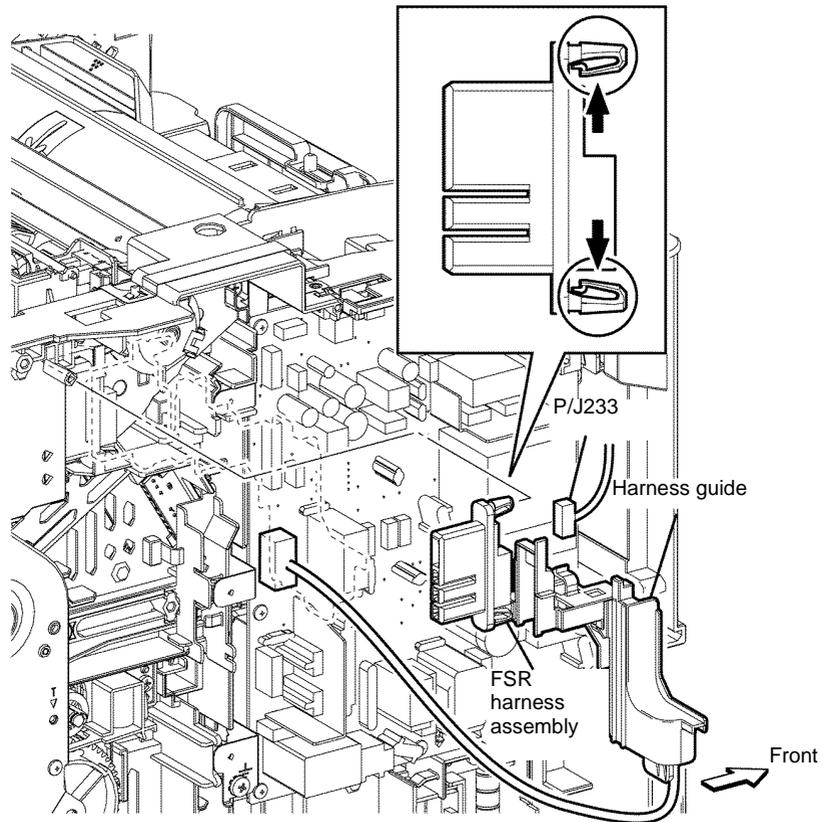

Figure 2 FSR harness assembly removal
15. Release the hook that fixes the FSR harness assembly from above. Disengage P/J233 from the FSR harness assembly, Figure 2.
16. Release the two hooks that fix the harness guide to the printer. Remove the harness guide, Figure 2.